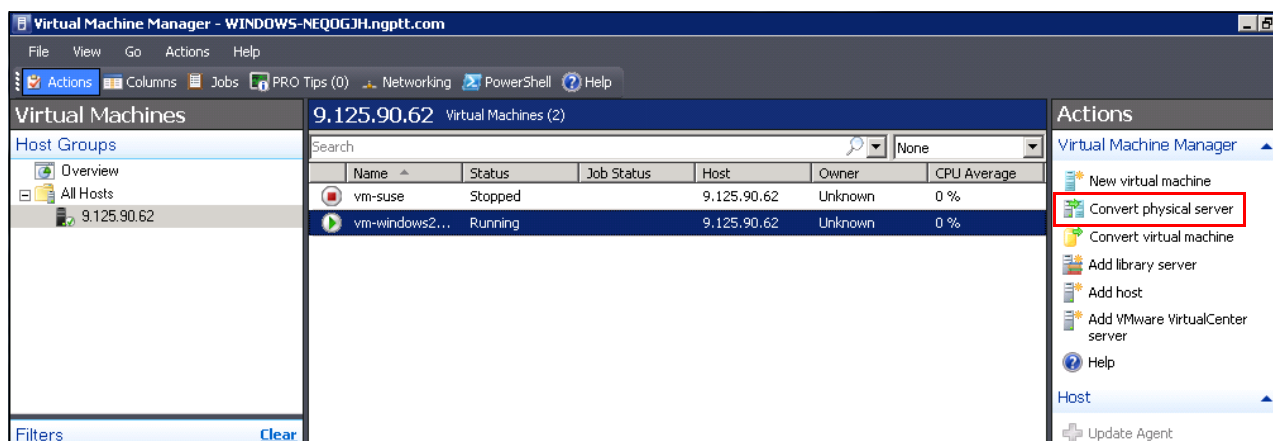

Figure 3-43 Starting the P2V process in SCVMM
1. From the SCVMM console, click **Convert physical server** to start the P2V process, as shown in Figure 3-43.